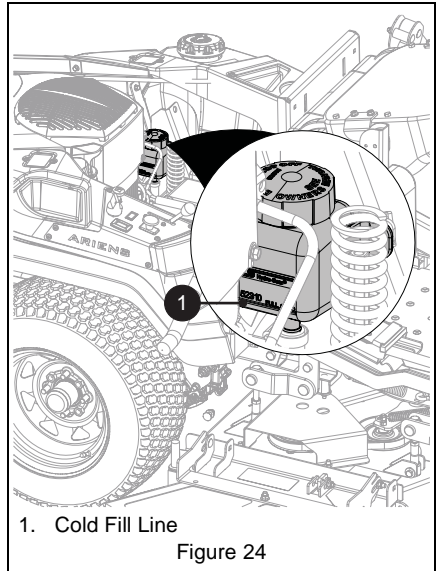

Figure 24
See Figure 24.
- b. Fill expansion tanks with 15W-50 synthetic motor oil until oil reaches the cold fill indicator mark. See Figure 24.